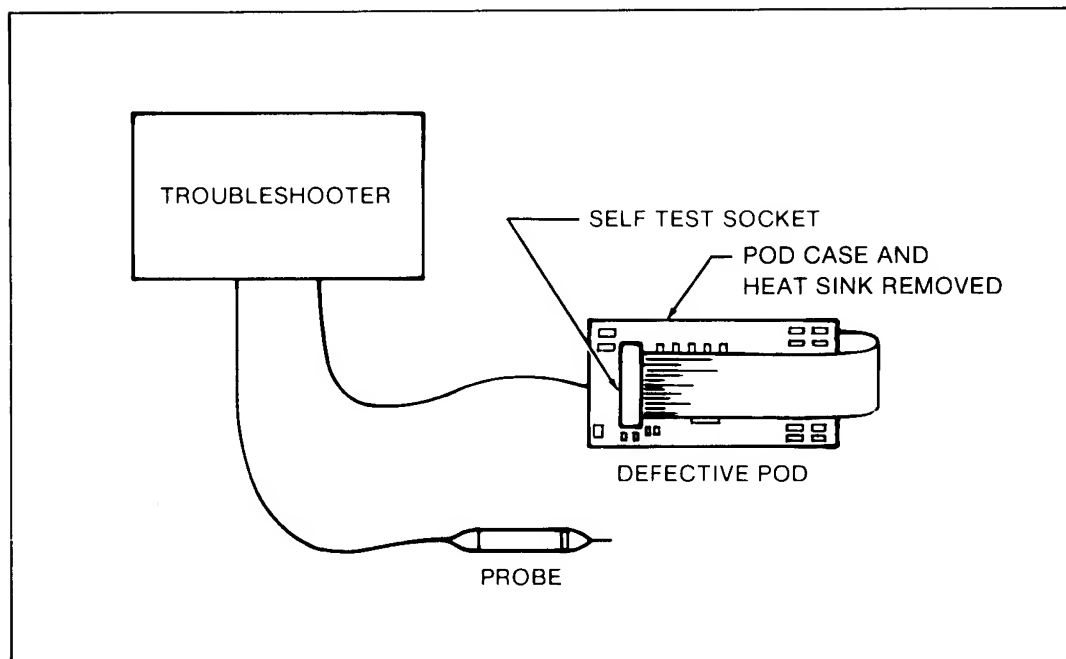

Figure 6-1. Troubleshooting a Defective Pod
3. Connect the pod to the troubleshooter, and insert the ribbon cable plug into the self test socket as shown in Figure 6-1. Rotate the locking knob (next to pin 1 of the Self Test Socket) to close the Self Test socket contacts.